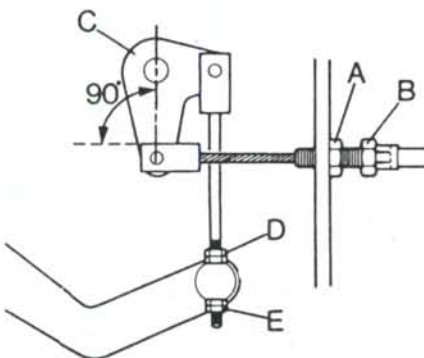

Fig. 157—View showing pto linkage adjustment for 1490 low profile tractors.
To adjust pto clutch, move hand lever to disengaged position. Check angle between centerline of crank lever and cable as shown in Fig. 157. The angle must be 90° and is adjusted by turning cable adjuster sleeve (B). Measure free movement of pto clutch hand lever. If necessary, adjust control rod nuts (D and E) to obtain lever free movement of 63 mm ($2\frac{1}{2}$ inches).